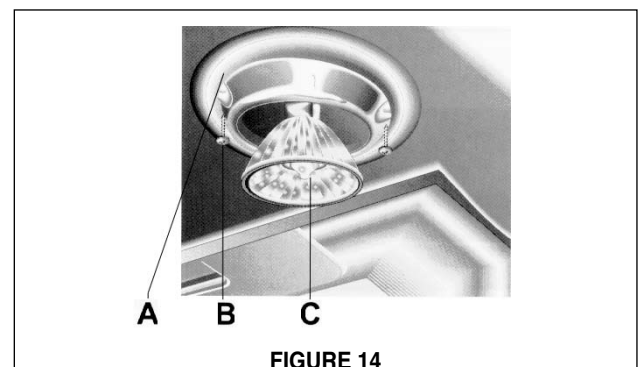

FIGURE 14
Before you begin, make sure that the rangehood is turned off and that the other lamps have had sufficient time to cool. Halogen bulbs burn extremely hot and serious injury could result from touching a hot bulb. To replace the lamp, the bezel (A) around the lamp (C) must be removed as indicated in **FIGURE 14**. This bezel (A) is held in place by two screws (B). Remove the two screws and the bezel. Then remove the lamp and replace with a new lamp. Once the new lamp is in place, reinstall the bezel.